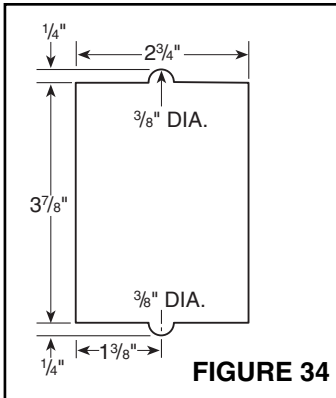

FIGURE 34
1. Make cutout according to dimensions in Figure 34.